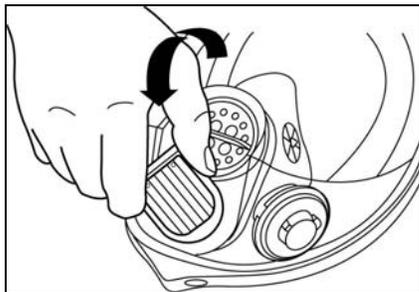

Fig. 17
2. Remove exhalation valve assembly by turning counter clockwise ¼ turn. (Fig. 17)
2. Remove exhalation valve assembly by turning counter clockwise $\frac{1}{4}$ turn. (Fig. 17)
3. Remove exhalation valve assembly by turning counter-clockwise 1/4 turn and withdrawing from lens center port. (Fig. 17)